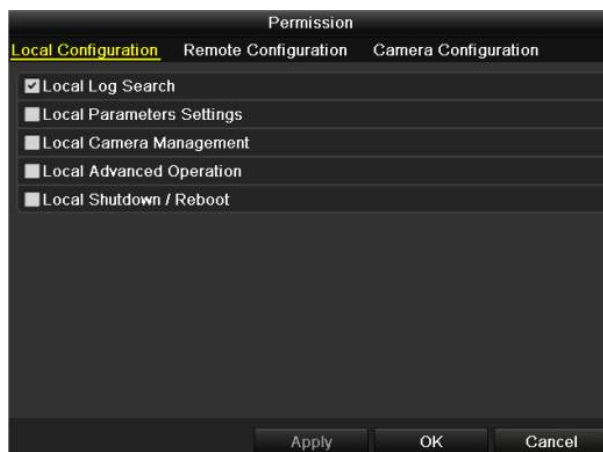

Figure 17-11 User Permission Settings Interface
- 1) Select the user from the list and then click to enter the **Permission Settings** interface, as shown in Figure 17-11.